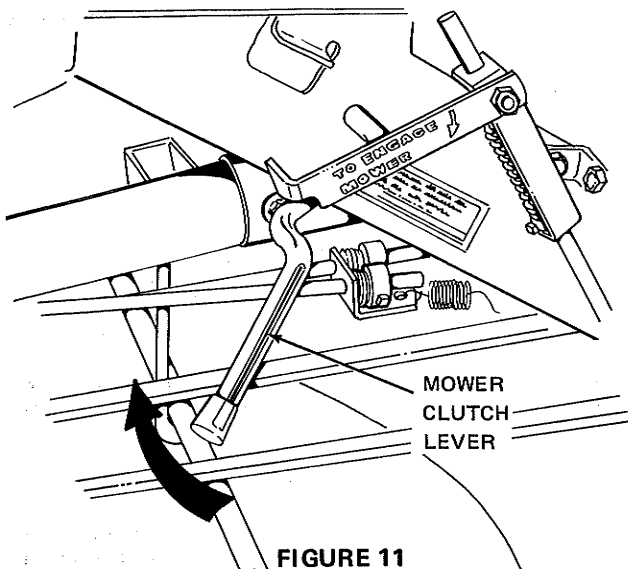

FIGURE 11
1. Engage the mower blade drive by pulling the clutch control lever **UP**. (Figure 11) The engine must be running at $3/4$ to full throttle speed.
1. Rotate the blade by hand so that it is positioned with blade tips pointing to front and rear. Engage mower by pushing mower clutch lever up (Figure 11).